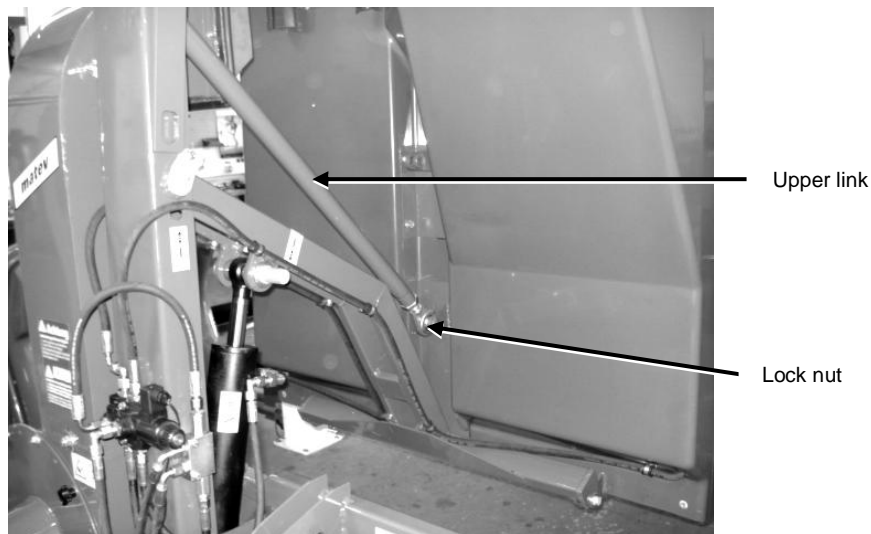

Fig. 69: Upper link (shown with lifted bin)
3. Loosen the lock nuts on the upper link (see Fig. 69) and adjust the length of the upper link.